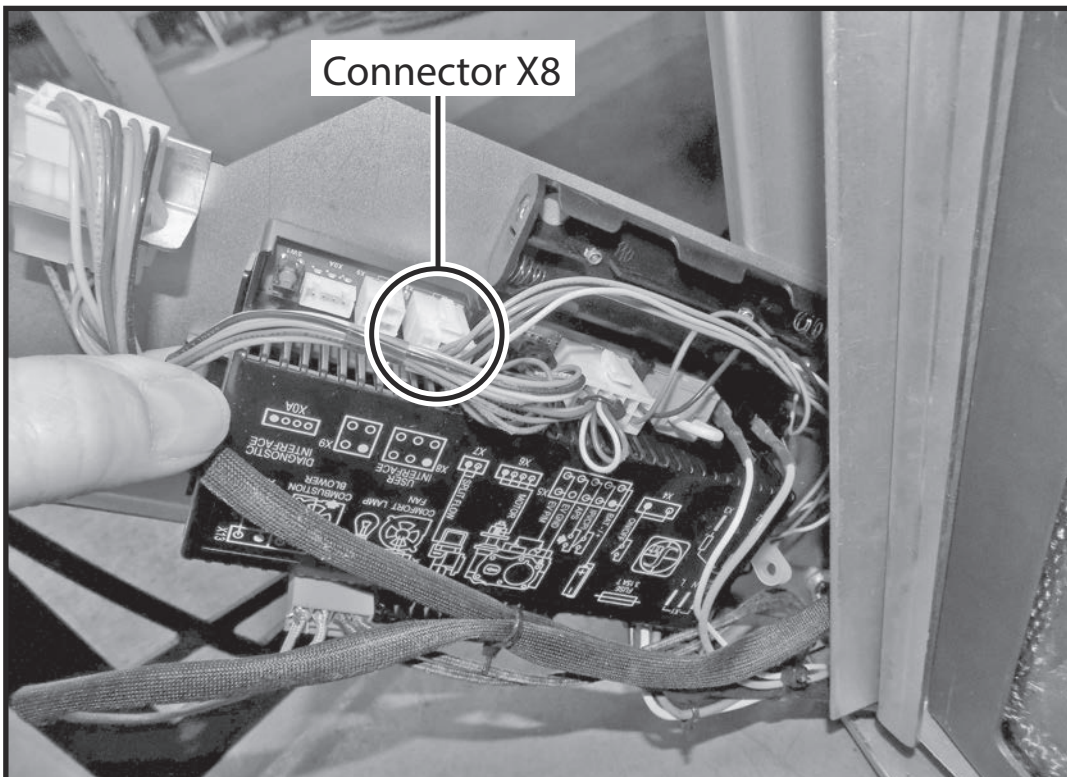

Figure 102: SIT manual switch connection at SIT module.
1. Check that the ON/OFF Switch cable is plugged into the SIT module (jack X8) as shown in Figure 102.